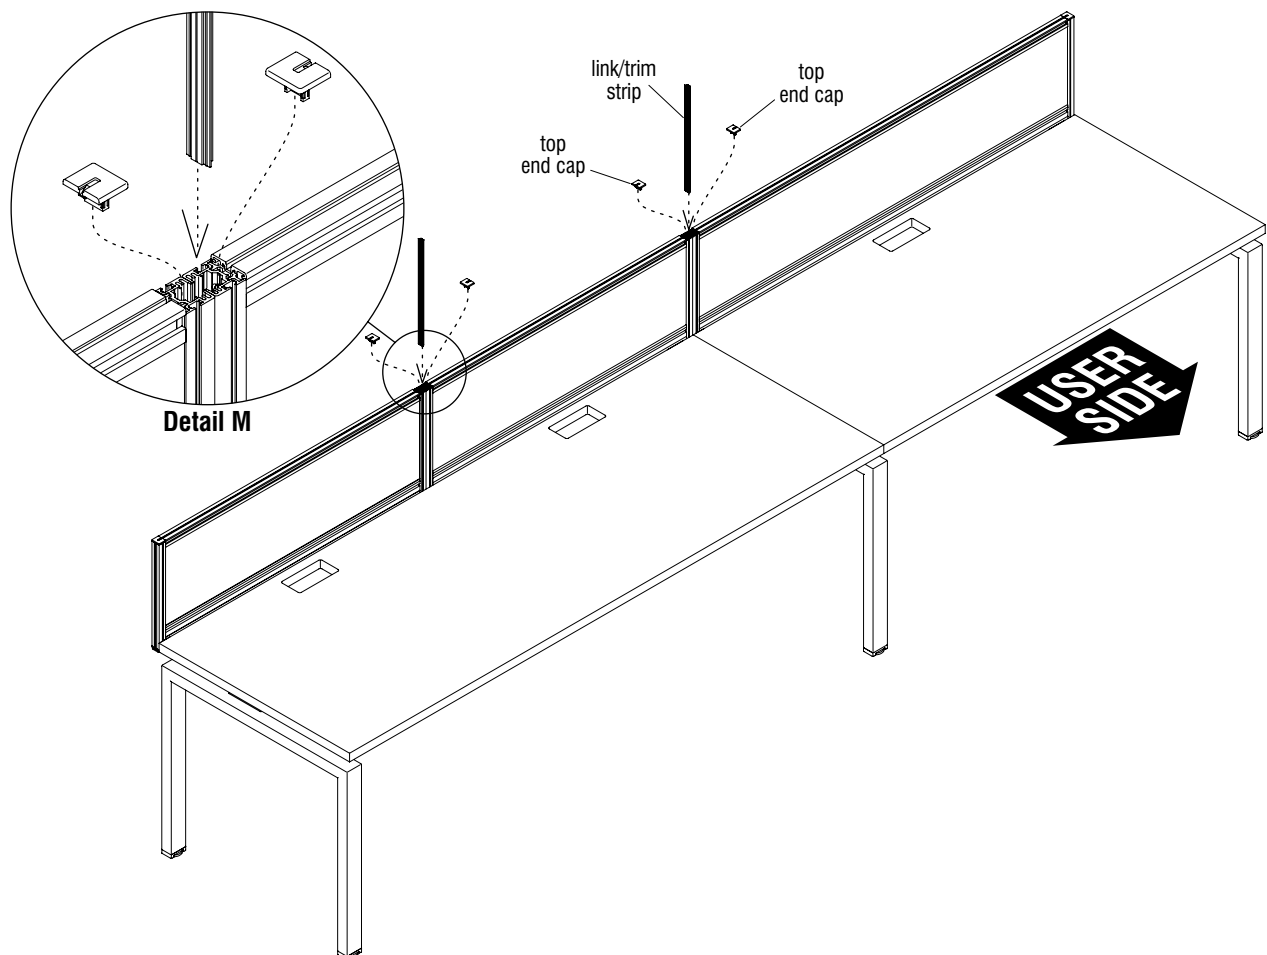

Figure 37 - Single-Sided Fixed Benching, Privacy Screen Installation
5. Where privacy screens are mounted on inline brackets, take one previously removed link/trim strip and insert it down through both frames extrusions such that the strip joins both frames together. Discard the unused link/trim strips (Figure 37, Detail M).